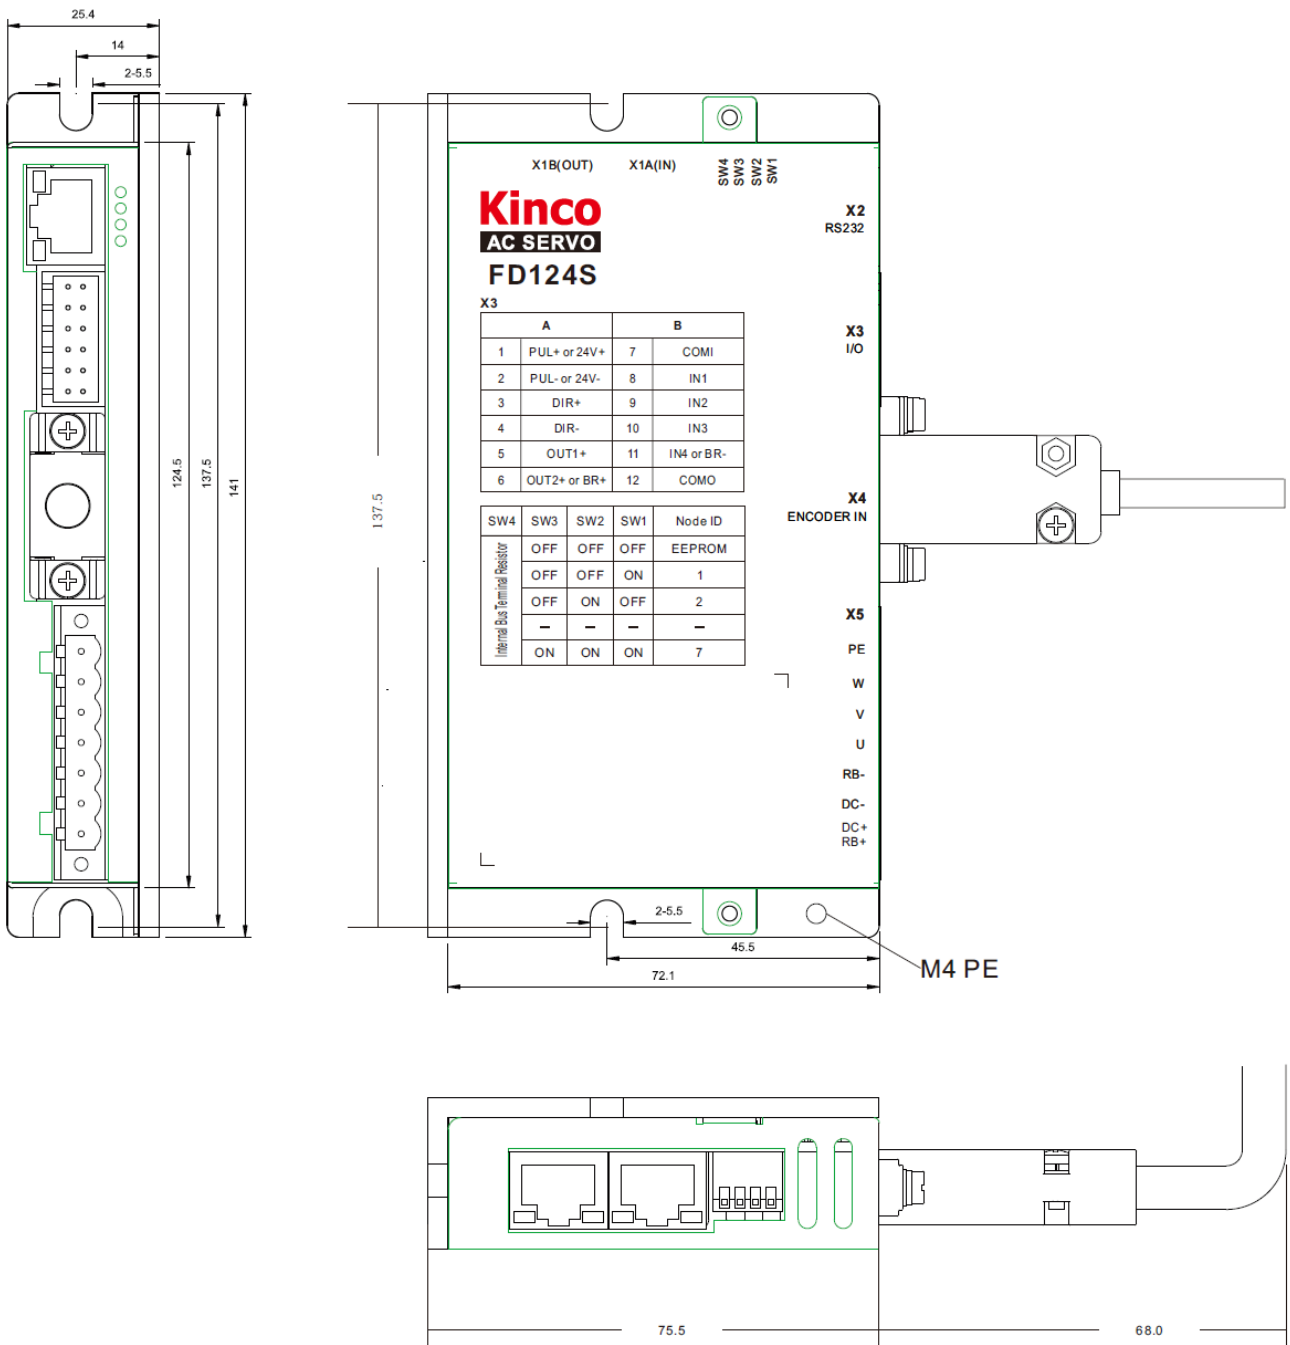

Figure2-3 D114S&FD124S driver size
- Please follow menu's all required operation. And refer to figure 2-3 to correctly install servo system.